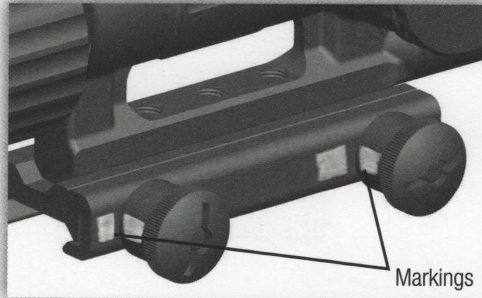

FIGURE 9
3. Installing the VCOG® in the same position on the flattop rail and using the same amount of torque on the thumb screws will ensure maximum zero retention. To replicate the same torque setting, tighten using the recommended method and mark the thumb screws and interface bar clamp (**Figure 9**) with indelible marker or other semi-permanent means.